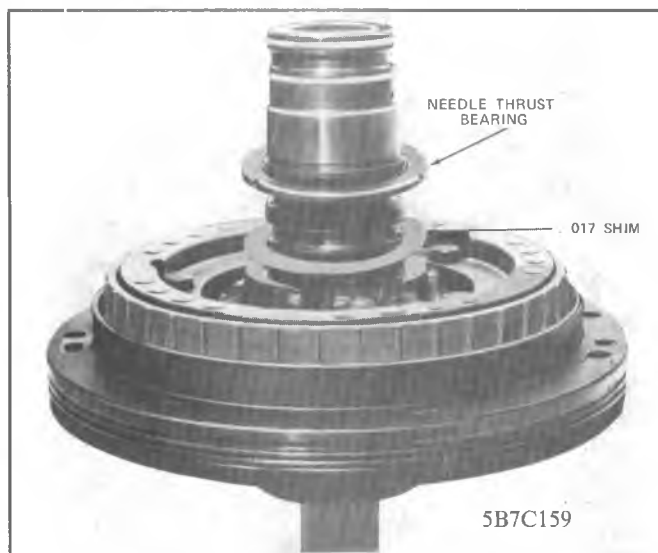

Figure 350C-133 Pump Shim and Needle Bearing
2. Align slot in speedometer drive gear with retaining clip and install. See Figure 350C-137.